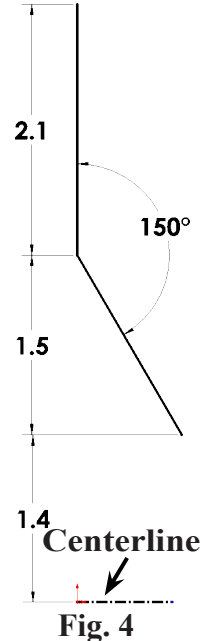

Fig. 4
Step 8. Sketch a **horizontal centerline** from the Origin , **Fig. 4**.